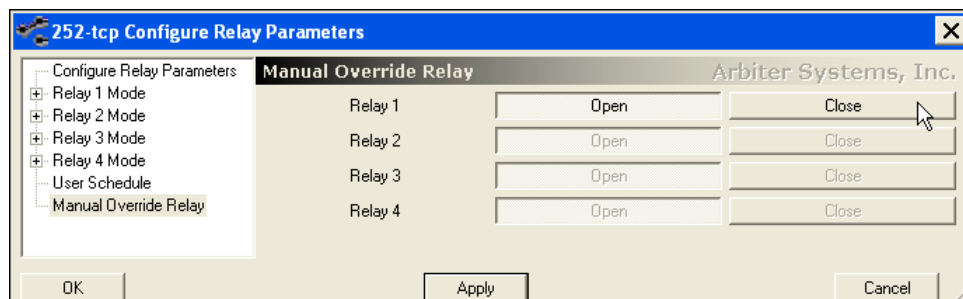

Figure 7.18: Configure Relays for Manual Override Mode
2. When ready to manually switch the relay, select Manual Override Relay at the bottom of the left panel and click either Open or Close to switch the relay as shown in Figure 7.18.